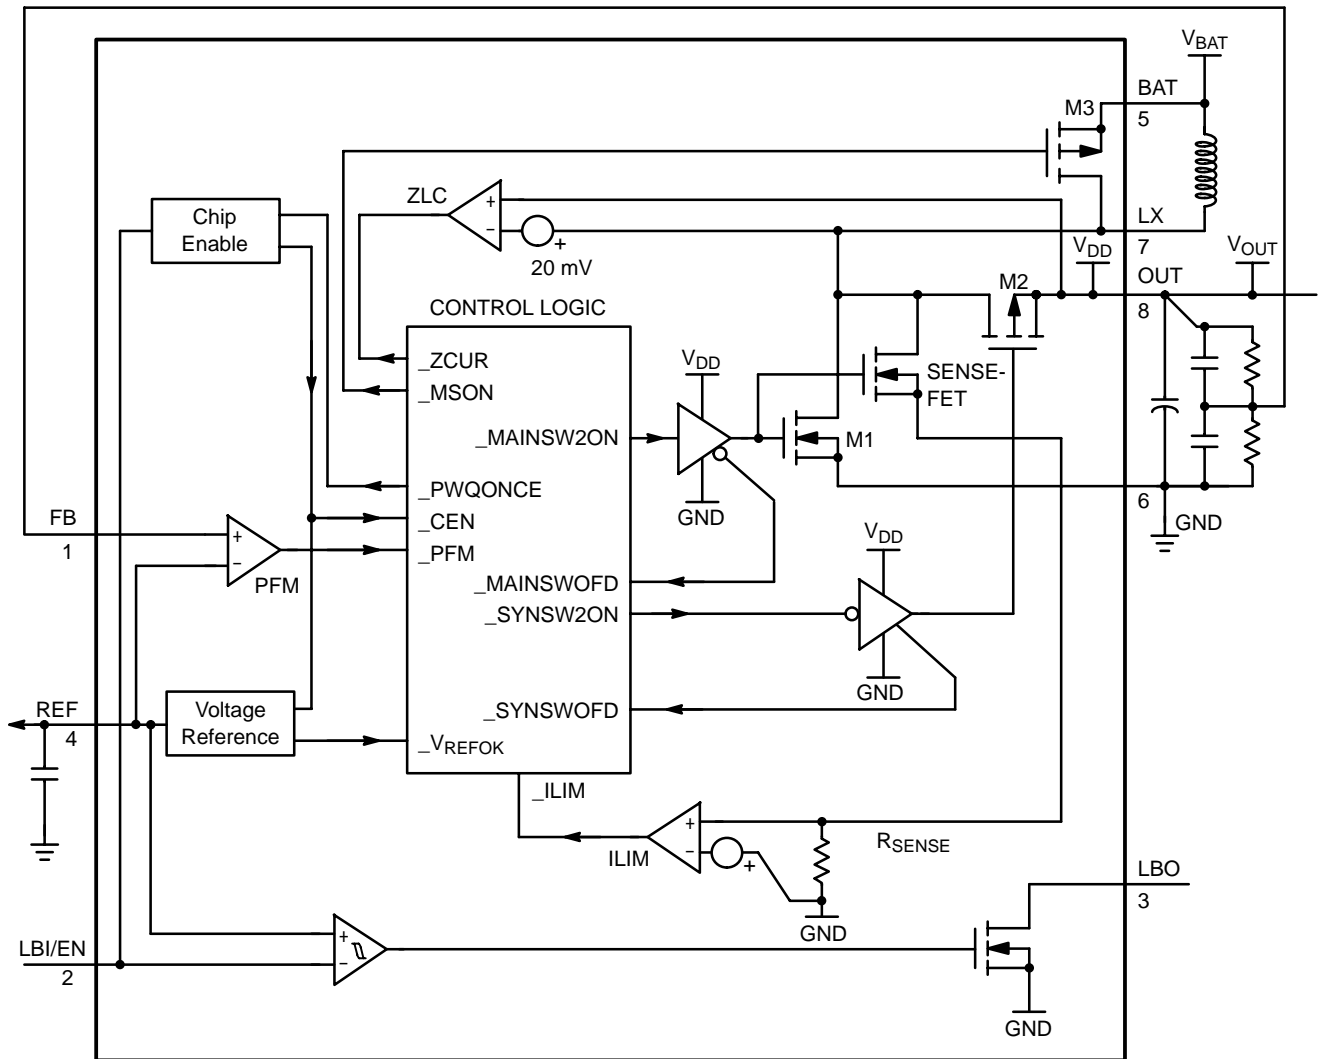

Figure 2. Simplified Functional Diagram
From the simplified Functional Diagram (Figure 2), the output voltage is divided down and fed back to pin 1 (FB). This voltage goes to the non-inverting input of the PFM comparator whereas the comparator's inverting input is connected to REF. A switching cycle is initiated by the falling edge of the comparator, at the moment, the main switch (M1) is turned ON. After the maximum ON-time (typical 1.4 μ S) elapses or the current limit is reached, M1 is turned OFF, and the synchronous switch (M2) is turned ON. The M1 OFF time is not less than the minimum OFF-time (typical 0.31 μ S), this is to ensure energy transfer from the inductor to the output capacitor. If the regulator is operating at Continuous Conduction Mode (CCM), M2 is turned OFF just before M1 is supposed to be ON again. If the regulator is operating at Discontinuous Conduction Mode (DCM), which means the coil current will decrease to zero before the next cycle, M1 is turned OFF as the coil current is almost reaching zero. The comparator (ZLC) with fixed offset is dedicated to sense the voltage drop across M2 as it is conducting, when the voltage drop is below the offset, the ZLC comparator output goes HIGH, and M2 is turned OFF. Negative feedback of closed loop operation regulates voltage at pin 1 (FB) equal to the internal voltage reference (1.190 V).
From Figure 2, SENSEFET is applied to sample the coil current as M1 is ON. With that sample current flowing through a sense resistor, sense-voltage is developed. Threshold detector (ILIM) detects whether the sense-voltage is higher than preset level. If it happens, detector output signifies the CONTROL LOGIC to switch OFF M1, and M1 can only be switched ON as next cycle starts after the minimum OFF-time (typical 0.31 μ S). With properly sizing of SENSEFET and sense resistor, the peak coil current limit is set at 1.0 A typically.